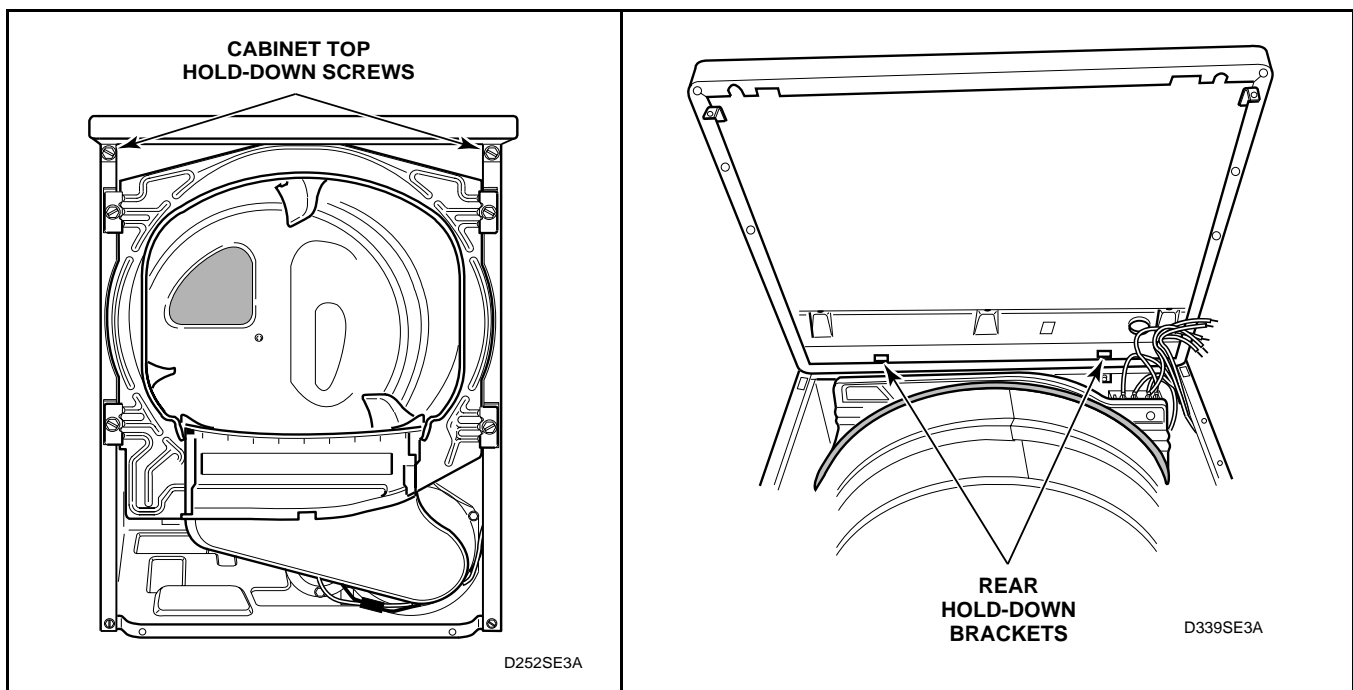

Figure 24
- Remove two cabinet top hold-down screws. See *Figure 24*.
- Lift cabinet top to a vertical position by hinging it on the rear hold-down brackets. See *Figure 24*.
- Carefully withdraw wire harness through hole in cabinet top and lift the top off the top brackets. See *Figure 24*.